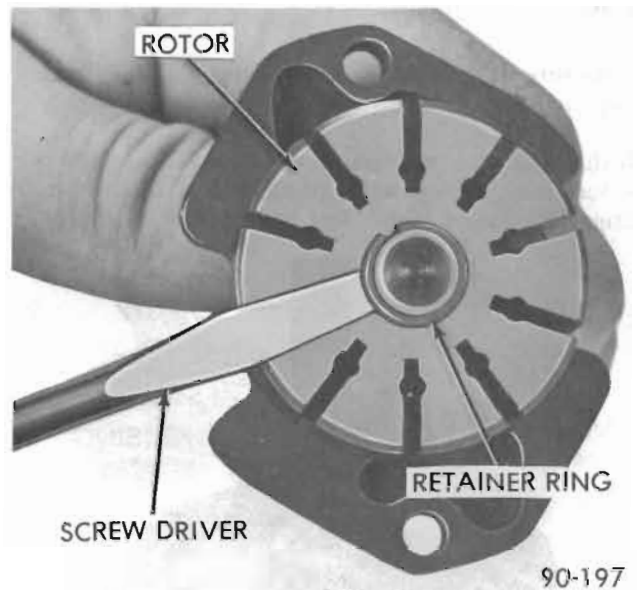

Figure 90-66 Removing Rotor Retaining Ring
13. If it is desired to disassemble the shaft and rotor assembly, use a screwdriver as shown in Figure 90-66.